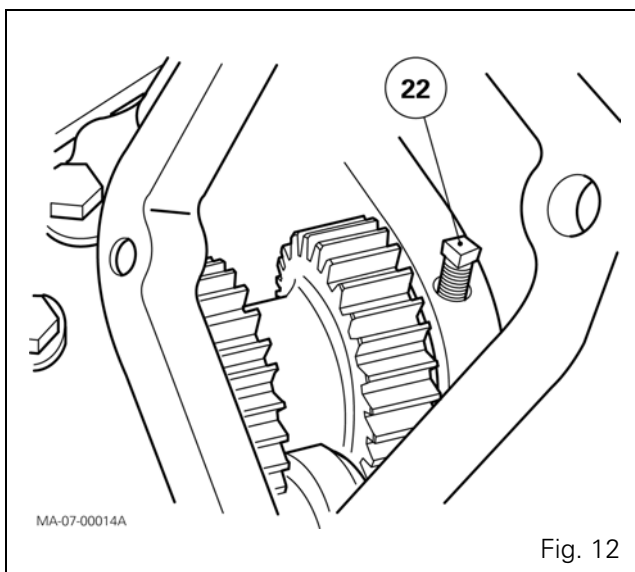

Fig. 12
59. Take off nut (25) and locking screw (24) from the fork (26).
60. Take out set screw (22) (Fig. 12).
61. Take out the pin (23) from the double pinion assembly (14) in order to disengage the fork (26).